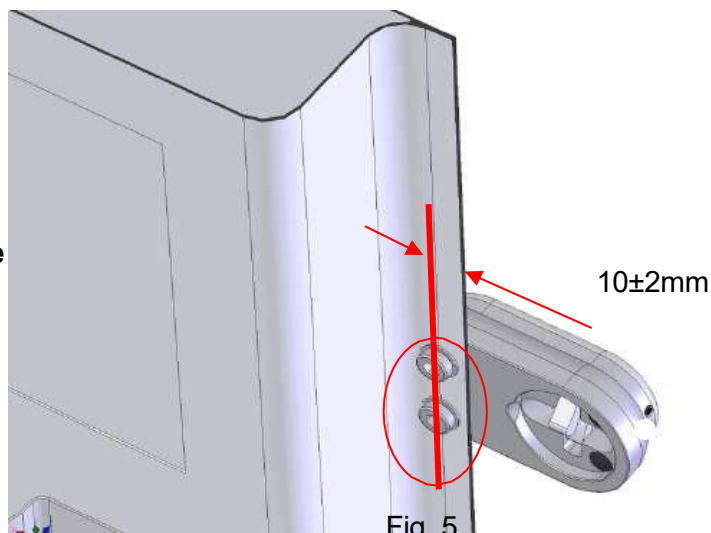

Fig. 5
- The position of the first two holes of 9 mm is approximately 10 ± 2 mm from the vertical edge of the door that opens (see fig. 5). This is a very strong part of the door. The specified tolerance is necessary to ensure that the cylinder heads of the M8 bolts are placed within the edge and never outside.
Before drilling, check that the head of each M8 bolt will remain within the door edge (see fig. 5). If the sheet metal around the holes is not perfectly flat and the M8 bolt heads cannot sit flush, flatten it carefully using pliers and a piece of plastic (fig. 9).